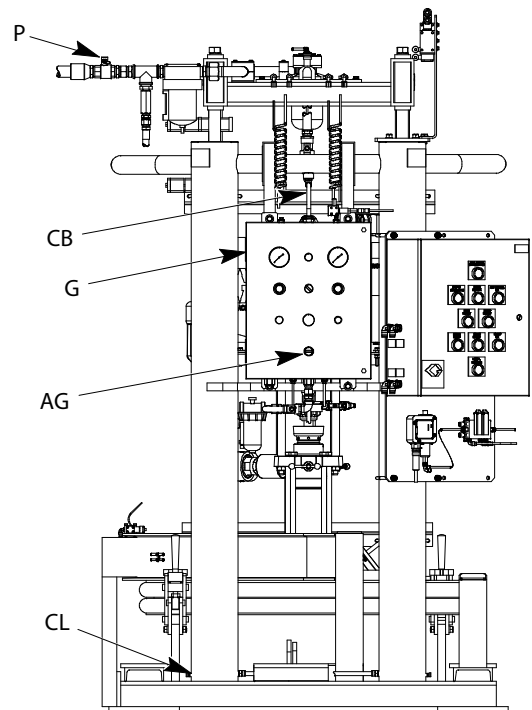

FIG. 16
1. Close the Main Air Shutoff Valve (P). See FIG. 16.
3. Press the BULK SUPPLY DEPRESSURIZATION Pushbutton on the Junction Box Panel (H).
4. After the pressure is relieved from the Follower Plate (D), raise the Follower Plate by setting the RAM POSITION Switch (AG) to the RAISE position.
3. Once both safety hitch pins (806) are secured, turn off all air to the system by closing the Main Air Shutoff Valve on the header (P) and follow your facility's pre-established lock-out/tag-out procedures. See FIG. 16 on page 35.